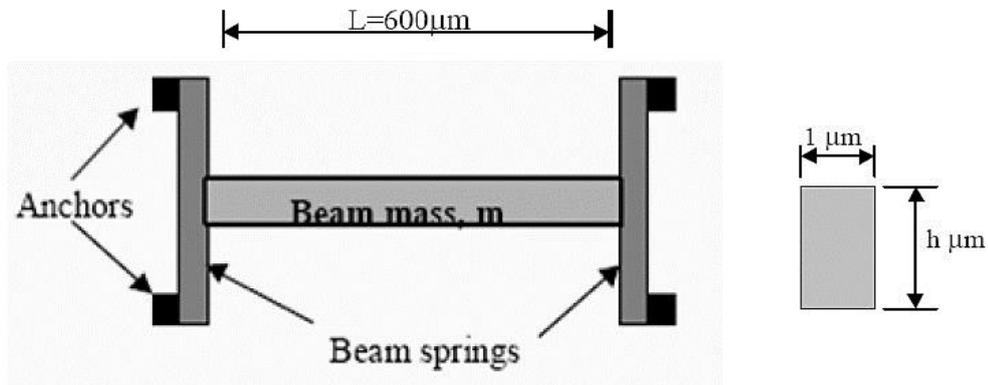

Figure 2
- (c) Determine the thickness of the beam spring shown in figure 2 below if the maximum allowable deflection of the beam mass is 5mm , one microsecond after the deceleration from its initial velocity of 50km/hr to a standstill. The proof mass of the vibrating beam is 16E-11kg . The entire structure is assumed to be made of silicon with Young’s modulus as 190GPa . **07**